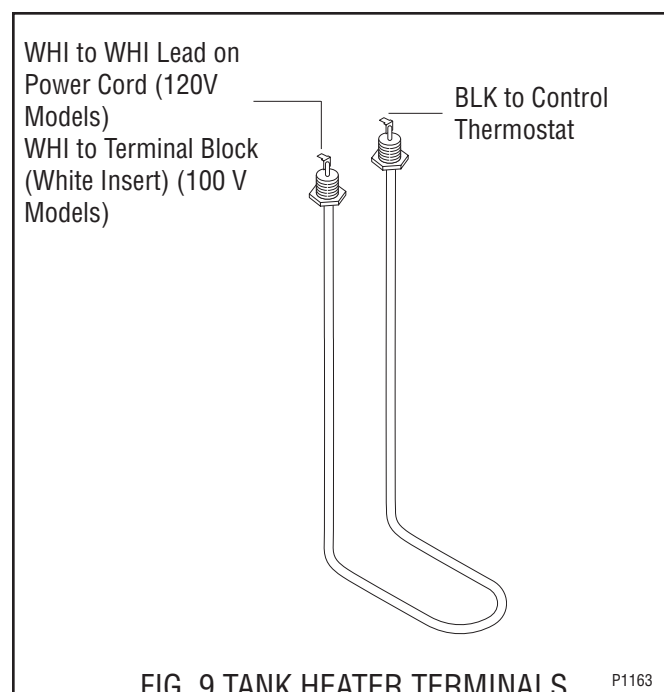

FIG. 9 TANK HEATER TERMINALS
14. Refer to Fig. 9 when reconnecting the tank heater wires.